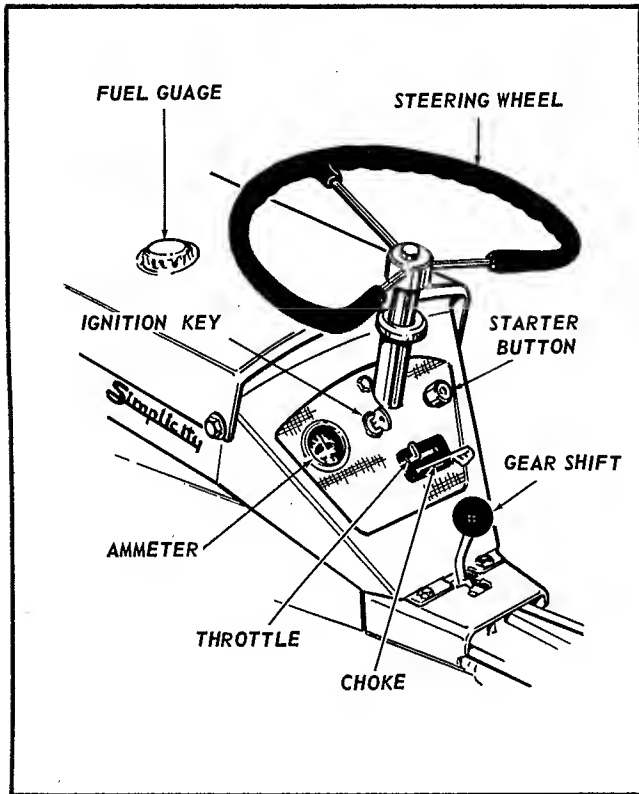
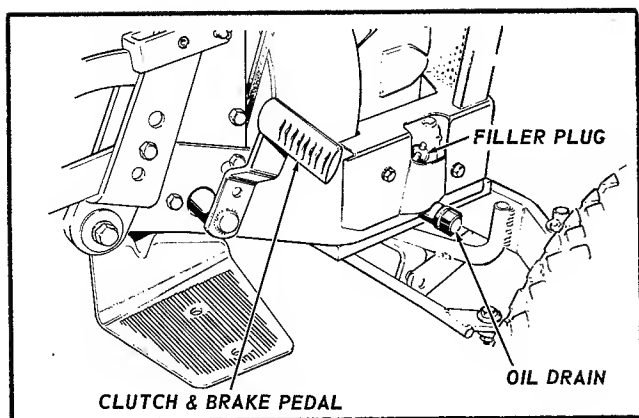

Fig. 12
Fig. 15
Engine - Service air cleaner and crankcase as recommended in engine service manual. Be sure air cleaner is maintained in clean condition. Never use oil in crankcase for more than 25 hours of operation. See figure 15. CLEAN AIR AND CLEAN ENGINE OIL WILL GIVE LONG TROUBLE FREE OPERATION. DIRT WILL RUIN YOUR ENGINE IN A SHORT TIME. A funnel and extension are included with the tractor for use in changing oil.
1. Place gear shift lever in neutral position. See figure 12. (Be sure tractor is on level ground and will not roll away in neutral. Apply parking brake.)
2. Place choke lever in "CHOKE" position. See figure 12 & 13.
3. Set throttle lever in mid position and turn ignition key to "ON". See figure 12. Press starter button to start engine and release. As engine warms up, return choke lever to "RUN" position.
1. Place gear shift lever in neutral position. See figure 12. (Be sure tractor is on level ground and will not roll away.)
3. Place choke lever in "CHOKE" position. See figure 12 & 13.
4. Place throttle lever in mid position and turn ignition key to "ON" position. See figure 12.
To place gear shift in desired gear range, depress the combination brake and clutch pedal located on right hand side of tractor. See figure 15. When pedal is depressed move shift lever to desired position (see figure 12) and gradually release pedal until clutch is engaged. When shifting from one range to another, pause briefly in neutral before completing shift. Set throttle lever to obtain desired speed. See figure 12